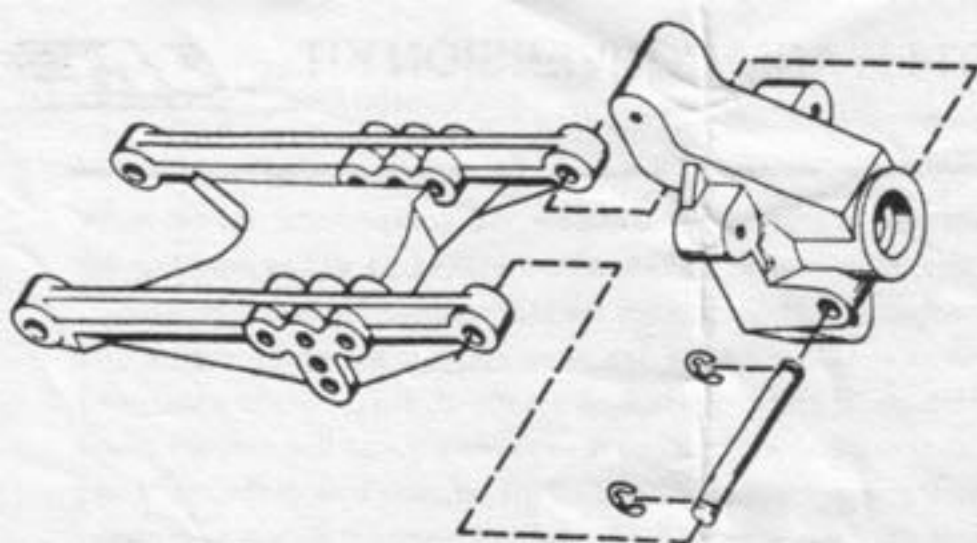

FIG. 2
9. Place the hub carrier assembly between the outer rails of the H-arm as shown. **FIG. 2**